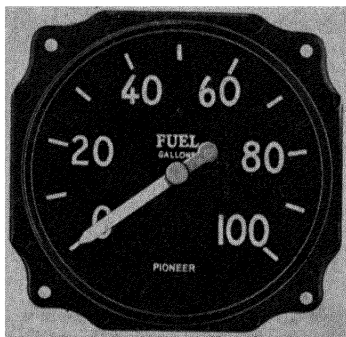

Fig. 276.—Fuel gage. (Courtesy of Pioneer Instrument Division of Bendix Aviation Corp.)
- At what r.p.m. is it most economical to operate the engine shown in Fig. 276, as far as gasoline consumption is concerned?
The capacity of the fuel tanks in gallons is always given in aircraft specifications. An instrument such as that appearing in Fig. 276 shows the number of gallons of fuel in the tanks at all times.